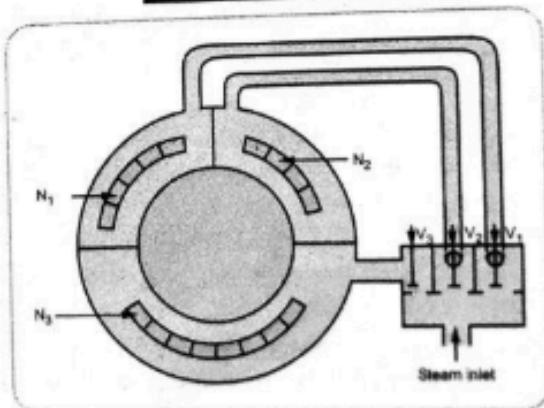

Fig. 4.50
- In this type of governing, the nozzles are grouped together and each group is controlled by a separate valve. Refer Fig. 4.50.
- The groups may contain number of nozzles (3 to 5 or more) as shown in Fig. 4.50 by N_1 , N_2 and N_3 . These groups are controlled by individual valve V_1 , V_2 and V_3 respectively.